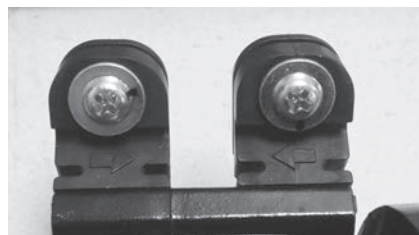

Figure 183 - Water pump gasket boot orientation
- 25 Remove the four (4) gasket boots with screws from the old water pump by sliding them out of the brackets. Note orientation of gasket boots for proper installation to new water pump. See Figure 183.
- 29 Dip the ends of the four (4) gasket boots in water and slide them into the brackets on the new water pump. The water will help gaskets slide smoothly into brackets. Directional arrows on gasket boots must be pointing inward toward one another. See Figure 183.